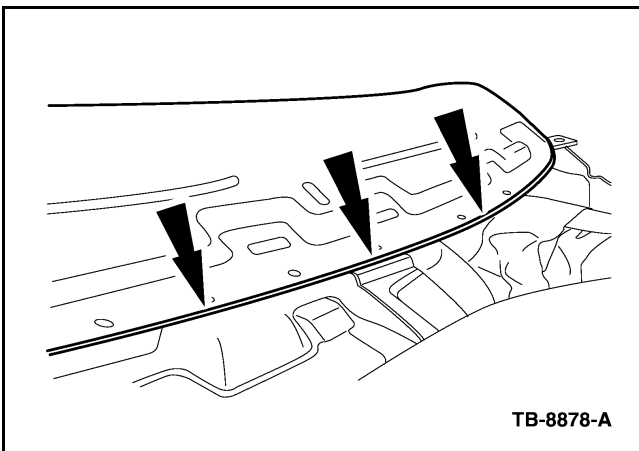

Figure 2 - Article 07-14-6
- a. To ensure a water tight seal, apply a small amount of TA-2 Motorcraft® Repair Urethane Adhesive/Seam Sealer to the pinch weld and work into the seam with fingertip, leaving a small amount on the edge, especially near the windshield center bracket area. (Figure 2)